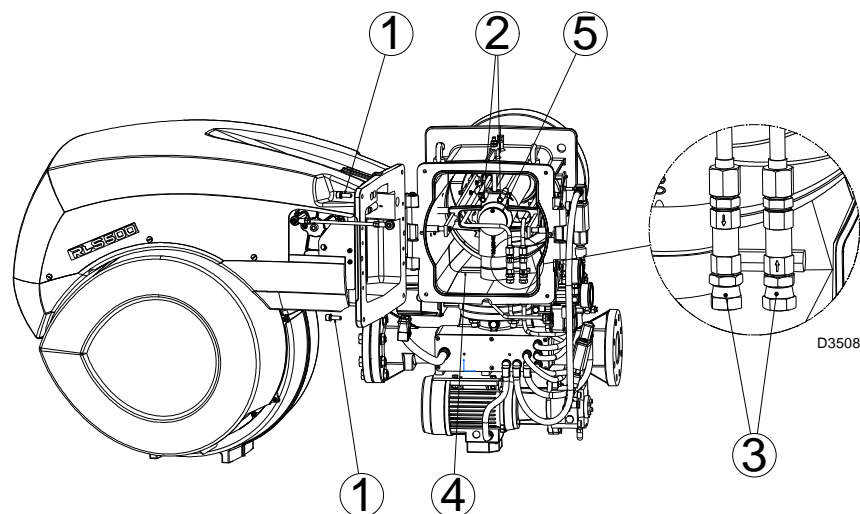

Fig. 13
#### RLS 300 - 400 - 500/EV FGR model (Fig. 13)
- open burner at hinge (Fig. 13) after removing the 4 screws 1);